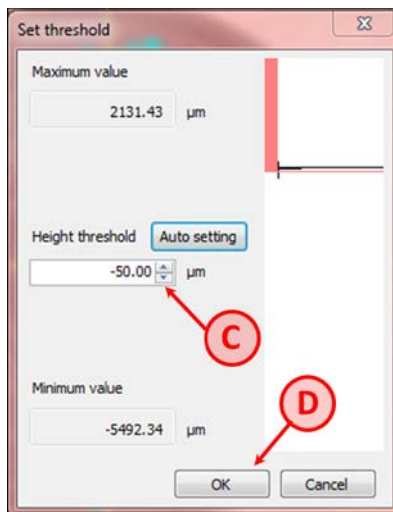

Figure 17 - Set Threshold Menu
- 13.3. Change the value of the **(C) Height threshold** field of the **Set threshold** menu (Figure 17) to -100µm.